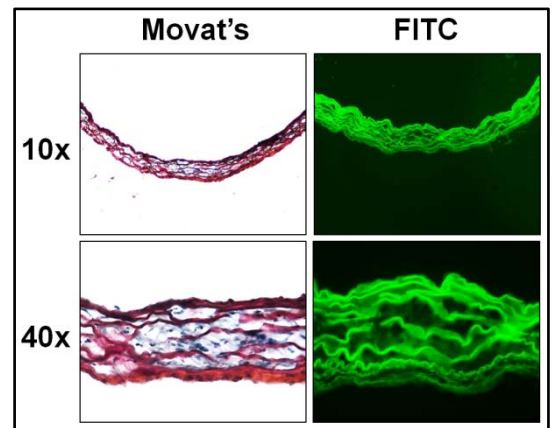

Figure 1. Representative low and high magnification Movat's staining and FITC illuminated images.
- Since elastin fibers have auto-fluorescence illuminated by FITC channel, FITC image of unstained sections could be used instead of Movat's and VVG stained sections (Figure 1). H&E or X-gal stained sections could also be used.